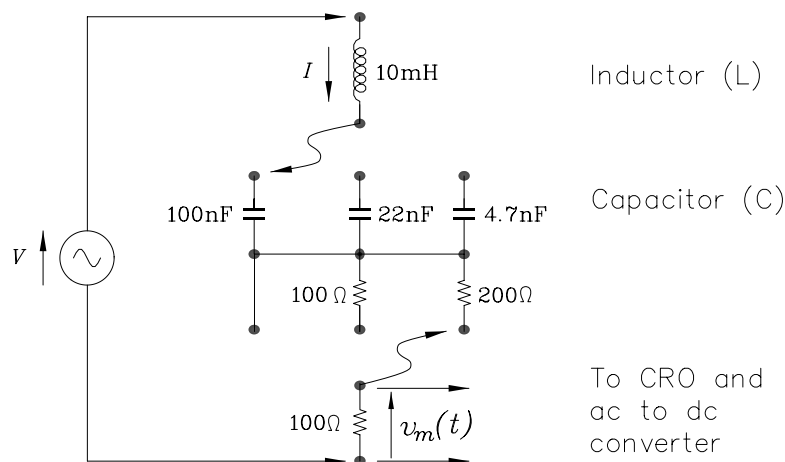

Figure 2: The experimental setup
Figure 2 shows the experimental set-up. A constant-amplitude *ac* signal is provided by a signal generator with a digital frequency readout. Detachable leads allow different capacitances and resistances to be connected to the fixed inductor and the $100\,\Omega$ (1%) current-monitoring resistor. The voltage $v_m(t)$ across the current-monitoring resistor is proportional to the current $i(t)$ in the resonant circuit. An oscilloscope is provided for observing the variation of $v_m(t)$ with frequency. Its *rms* value at any frequency may be measured by connecting $v_m(t)$ to the *ac-to-dc* converter inside the circuit housing and reading the output *rms* level with a digital multimeter. The *rms* current I is then equal to the *rms* voltage divided by $100\,\Omega$.
- (1) Before connecting the signal generator to the resonance circuit, turn the amplitude control knob of the generator fully clockwise and, using the oscilloscope, check that the amplitude of the signal generator is independent of frequency.
- (2) Connect up the circuit in Figure 2 with $C = 22 \text{ nF}$ and $r_s = 0$. Observe and get a qualitative feel for how $v_m(t)$ and hence $i(t)$ in the series resonant circuit varies with frequency. Vary the frequency until $v_m(t)$ is a maximum. Reduce the amplitude of the signal generator until the digital multimeter reads 3.0V. This ensures that the maximum *rms* voltage of $v_m(t)$ is 3.0 V and allows the full range of the 2-cycle linear-logarithmic paper (provided) to be used for plotting a symmetrical graph of the *rms* voltage of $v_m(t)$ versus frequency.
- (3) Take readings in the vicinity of both of the half-power points, i.e where the *rms* voltage of $v_m(t)$ is about 0.7 of the maximum value. This ensures sufficient measurements for determining f_1 and f_2 to be made at nearly the same time, minimizing the effects of drift. Then take measurements to fill in the rest of the curve. You *must* plot the graph as you take the points, so that you can use your judgement — taking points closer together where the curve is most rapidly changing, or at other points of interest.
- (4) Without changing the amplitude setting of the oscillator and staying with the 22 nF capacitor, plot resonance curves (using the same axes as before) for $r_s = 100 \Omega$ and $r_s = 200 \Omega$.
- (5) Again using the *same axes*, and keeping r_s at 100 Ω , plot two more resonance curves for $C = 100 \text{ nF}$ and $C = 4.7 \text{ nF}$.
- (6) Take the circuit board to the *RCL* meter and measure L and r_L . Write the values in the bracketed spaces in the following table (which you will complete and hand in as part of your report). Also measure C and r_c and record in the spaces provided (you might find that r_c is too small to measure in which case record it as zero). There is no need to measure the resistances of r_s and r_m as their nominal values are accurate to within 1%.
- (7) The resistance r_g of the signal generator may be measured by applying the signal directly to the current measuring resistance r_m . Adjust the amplitude of the signal generator until the digital multimeter reads 1V. Disconnect the signal generator from r_m and measure the open-circuit *rms* voltage of the signal generator by connecting it directly to the input of the *ac-to-dc* converter. The generator resistance r_g then is given by the difference between the open-circuit *rms* voltage and 1V, divided by 1V and multiplied by 100 Ω .
- (8) From your resonance plots and measured values of C determine f_0 , Q and R . Calculate the expected values of f_0 , Q and R from the *measured* values of the components. Hence complete the table. Any significant discrepancies between measured and expected values should be investigated and resolved.